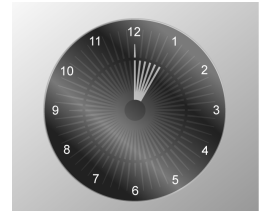

Fig. 4
- use buttons **-** and **+** to set the cooking time: press button **+** to add **1 minute** to the cooking time and every **12 minutes** a new **internal segment** will illuminate (**Fig. 4** shows a cooking time of 1 hour);